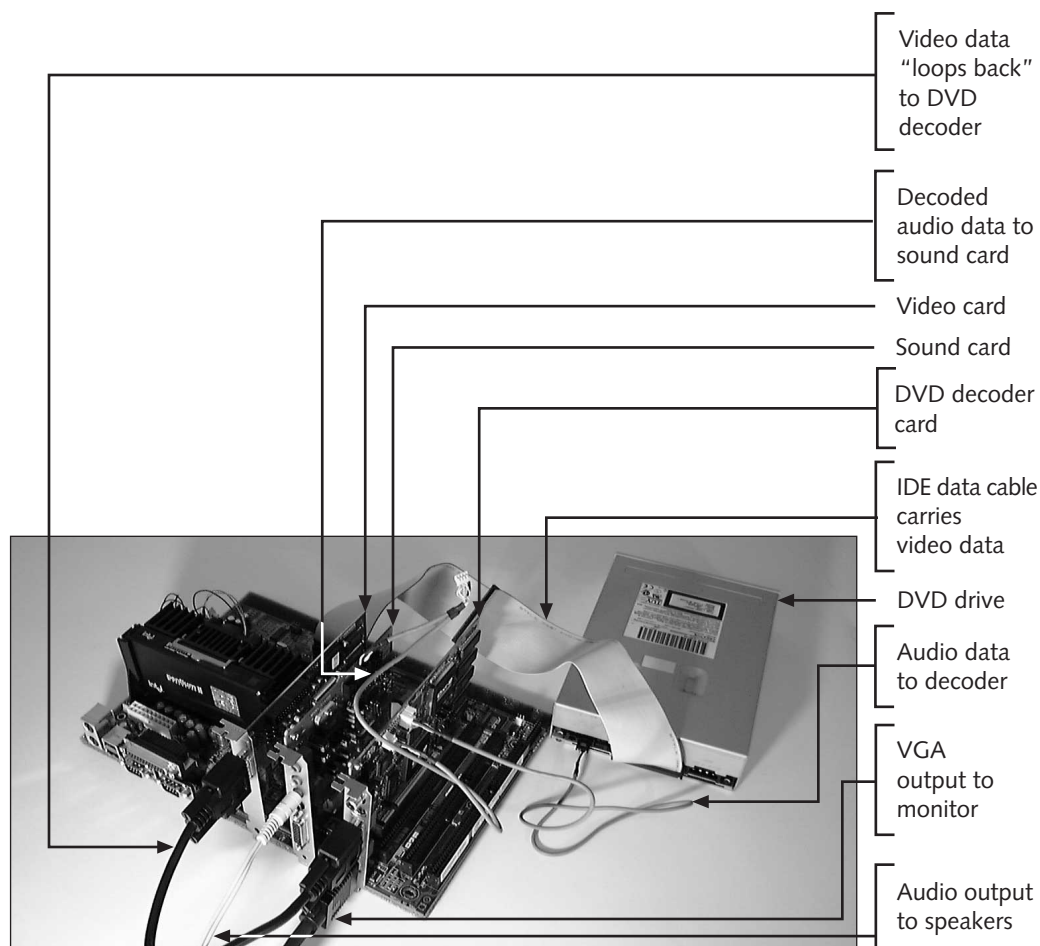

Figure 15-42 The complete DVD subsystem, including the drive (right) and various components installed on the system board (left)
To help make the final installation of parts easier to visualize, we set up the installation outside the case and took the photo shown in Figure 15-42. This photo was taken simply to help you understand the final installation. No power was turned on while the components were in this position!
- Connect the second audio cord first to the audio out connection on the DVD decoder card and then to the audio in connection on the sound card (refer back to Figure 15-42). The cord has two plugs at the sound-card end. Select the plug that fits the sound-card connection.